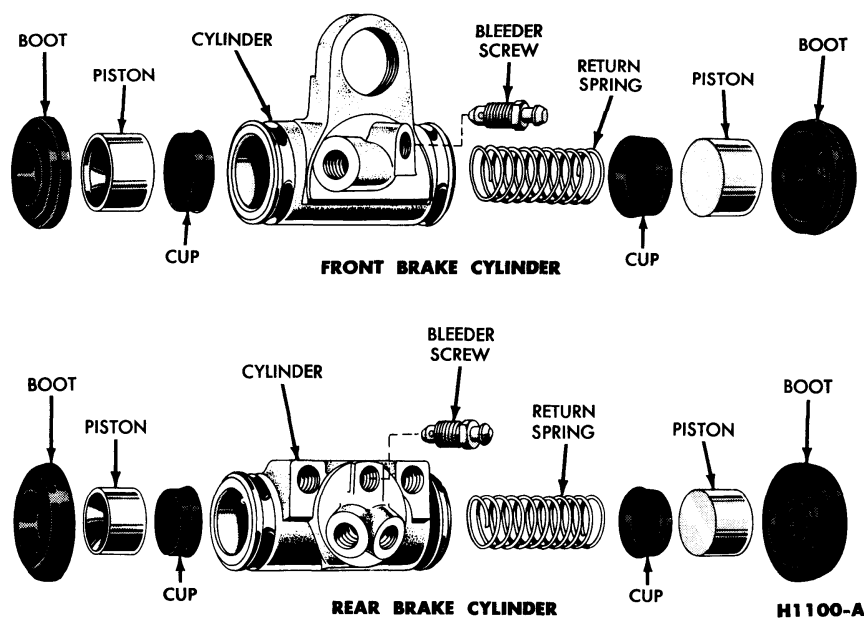

FIG. 10—Front and Rear Wheel Cylinders
1. Remove the links and the rubber boots from the ends of the brake cylinder. Remove the pistons, cups, and return spring from the cylinder bore (Fig. 10).
3. Insert the return spring, cups, and pistons into their respective positions in the cylinder bore (Fig. 10). Place a boot over each end of the cylinder. Bleed the brake system.